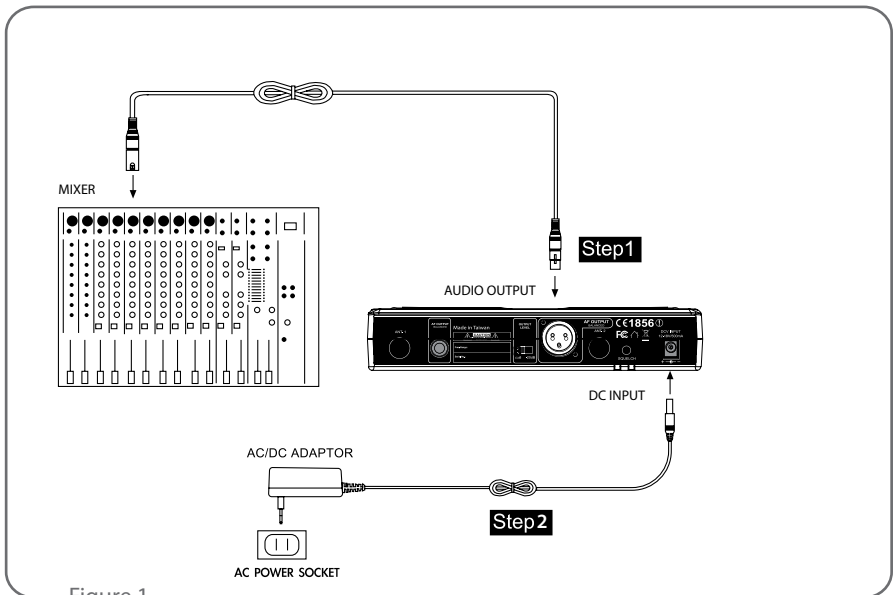

Figure 1
- (1) Connect to the subsequent unit (e.g. mixer, or amplifier)
Connect one end of a proper AF cable to the AF Output ⑪ or Balanced XLR Output socket ⑫, then plug another end to the “MIC IN” input socket of a mixer or an amplifier (Step 1 of Figure 1)
- (2) Connect the power supply unit
Plug in one end of AC/DC adaptor cable ⑥ to Power Supply Jack ⑨ in the rear panel of receiver, and plug another end into an AC outlet (Step 2 of Figure 1)